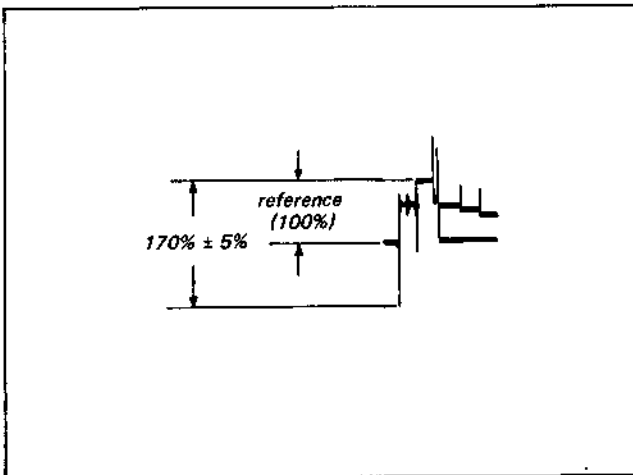

Fig. 4-4-17. Dark clip adjustment
- (1) Supply the VTR with the colour bar signal and set up the E-E mode.
- (2) Connect the oscilloscope to TP4 (collector of Q8).
- (3) Adjust RV6 so that the signal tip (dark peak) is $170\% \pm 5\%$. (See Fig. 4-4-17.)